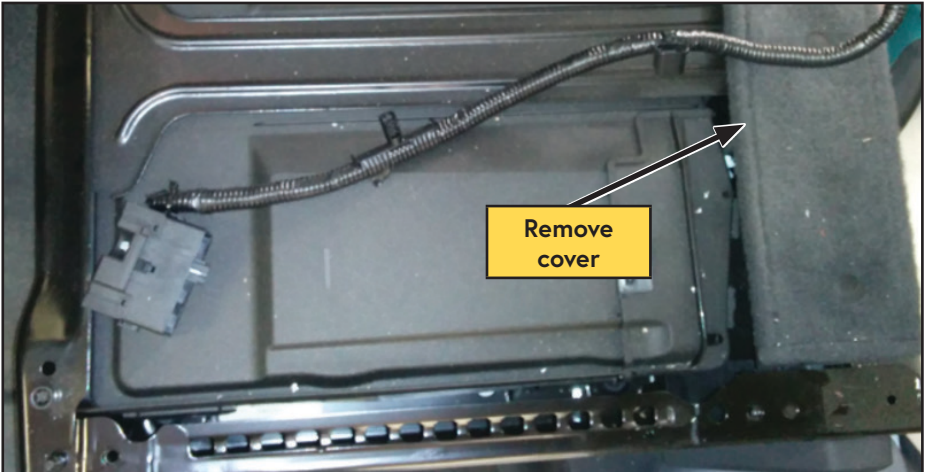

Figure 9 — Battery cover
- Remove the (x2) bolts underneath the piece of carpet at the rear of the battery cover retaining plate. Remove the metal bracket, then lift the plastic tabs on the rear of the battery cover to remove the battery cover (Figure 9).